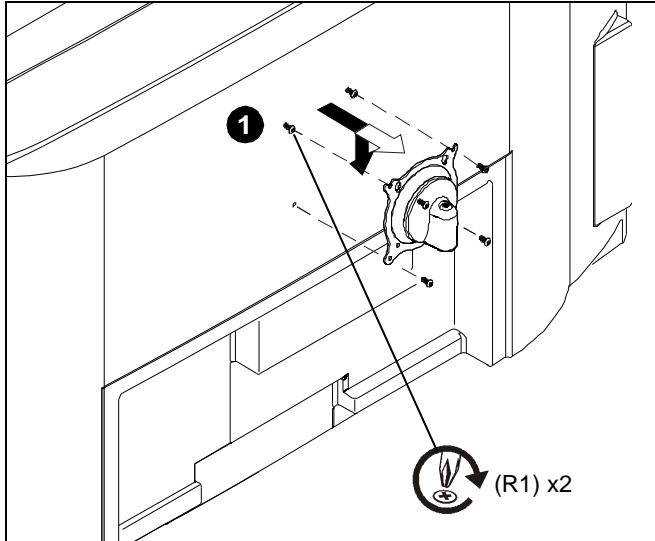

Figure 4
1. Partially install two screws (R1) into upper mounting holes in display back. (See Figure 4)